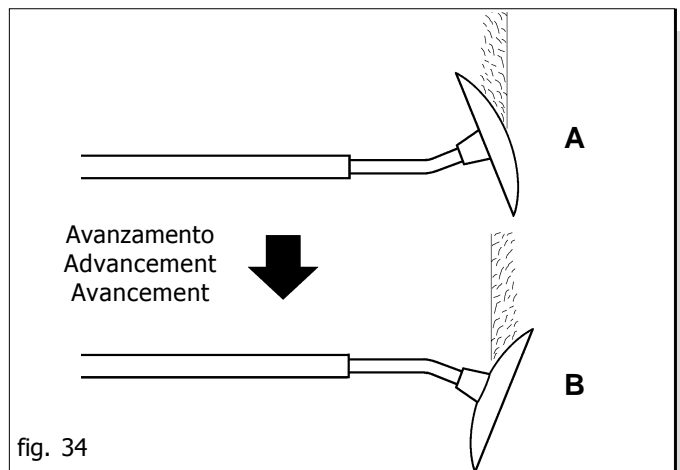

fig. 34
**For normal soils the correct working position of the disc is that shown in Fig. 34 ref. A; for strong soils turn it over as shown in ref. B Fig. 34.**